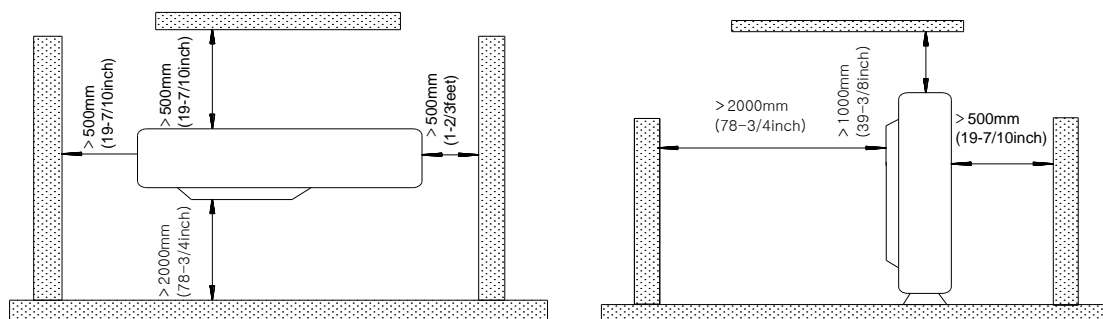

Figure 3-2-1
(1) Install the outdoor unit in a place where it will be free from being dirty or getting wet by rain as much as possible.
(2) Install the outdoor unit where it is convenient to connect with the indoor unit.
(3) Install the outdoor unit where the condensate water can be drained out freely during heating operation.
(4) Do not place animals and plants in the path of the warm air.
(5) Take the air conditioner weight into account and select a place where noise and vibration are small.
(6) Install the outdoor unit where is capable of withstanding the weight of the unit and generates as less noise and vibration as possible.
(7) Provide the space shown in Figure 3-2-1, so that the air flow is not blocked. Also for efficient operation, leave three of four directions of peripheral constructions open.